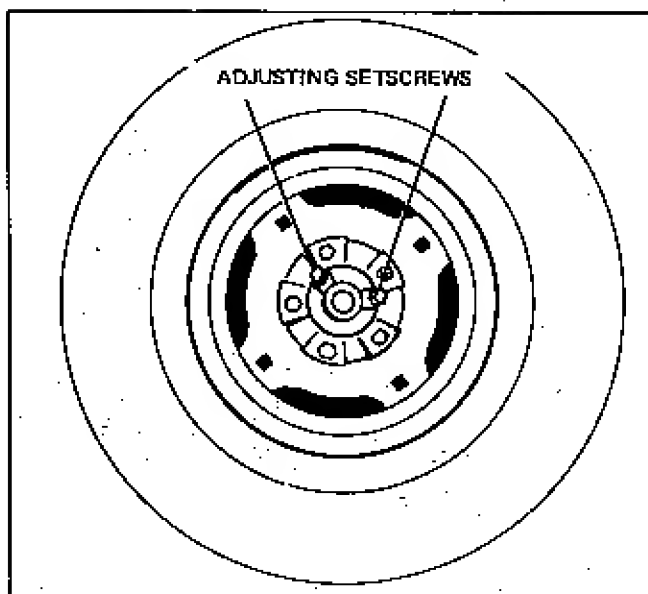

Figure 1.
1. Remove the two controlled traction bolts in the right hand wheel hub and install the 7/16-20 x 1/2" long cup point set screws. See Figure 1.
1. Insert the No. 125106 cross mount assembly through the holes in the bevel gear housing plates on the tractor and secure with the (1) 7/16-14 x 1" long capscREW, lockwasher and full hex nut as shown above.
2. Attach the No. 125107 right mount assembly to the cross mount assembly as shown in Figure 1 using the 3/8-16 x 2-1/2" long capscREW, lockwasher and full hex nut.